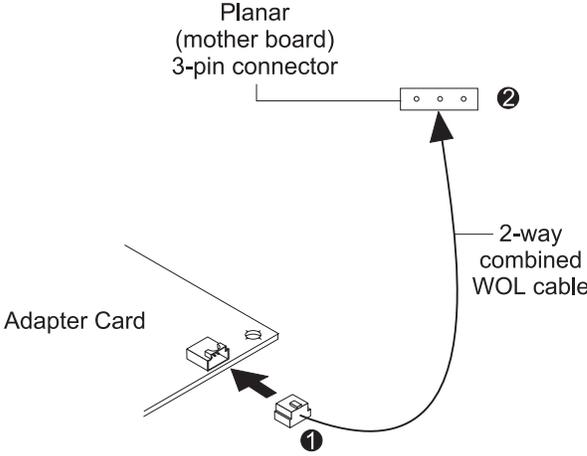

Figure 2-3. Connecting the Combined Signal and Power Cable to Your PC
- A 2-way combined Wake on LAN signal and power cable (IBM PN 08L2559) as shown in Figure 2-3 on page 2-5, to be used between the adapter and PC model that has a combined signal
| in Figure 2-3 on page 2-5.